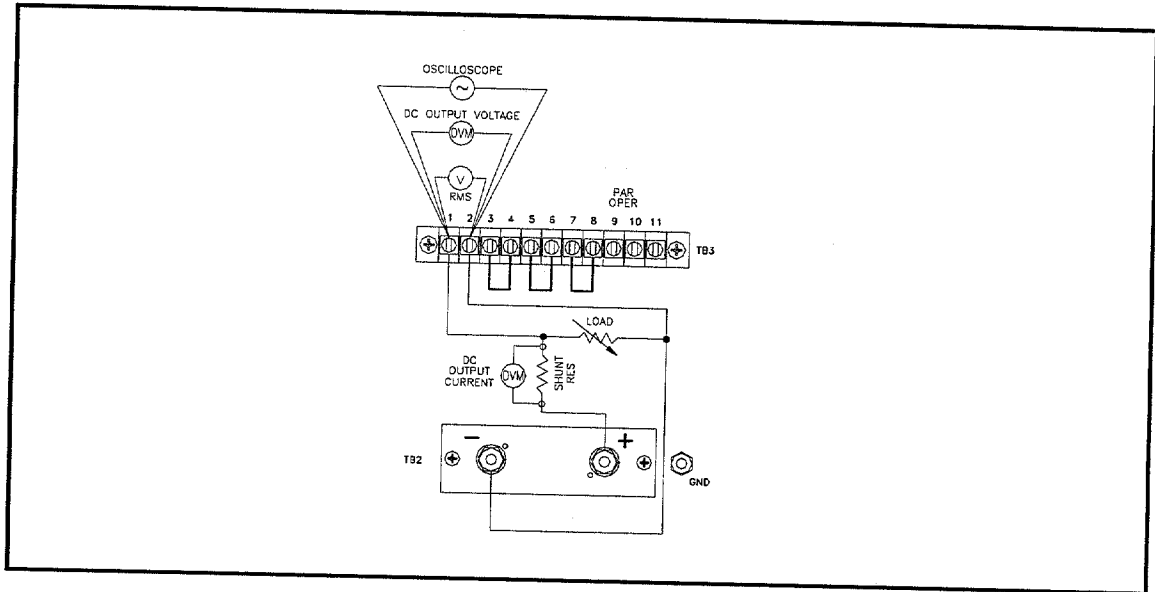

Figure 2-1 Performance Test Setup
1. Connect a sensitive digital voltmeter and an RMS ac voltmeter across unit output terminals per Figure 2-1. Select a current shunt per Table 2-2 with a DVM for current output readings.